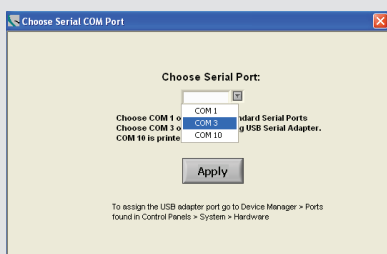

Figure 6.1
1. Select PV Configure from the Windows *START* menu under the Digital PicoView® heading. A dialog box asking you to select the proper COM port will pop up. (Figure 6.1)